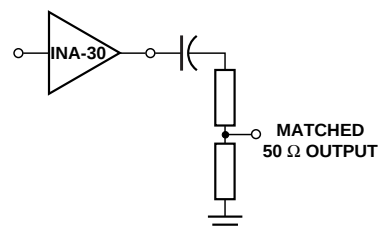

Figure 11. Impedance Matched Output.
- A second implementation, shown in Figure 11, uses a simple reactive network at the amplifier's output to match the output impedance to $50\ \Omega$.
This section describes a demonstration circuit for 900 MHz that is based on the matched output configuration shown in Figure 11.